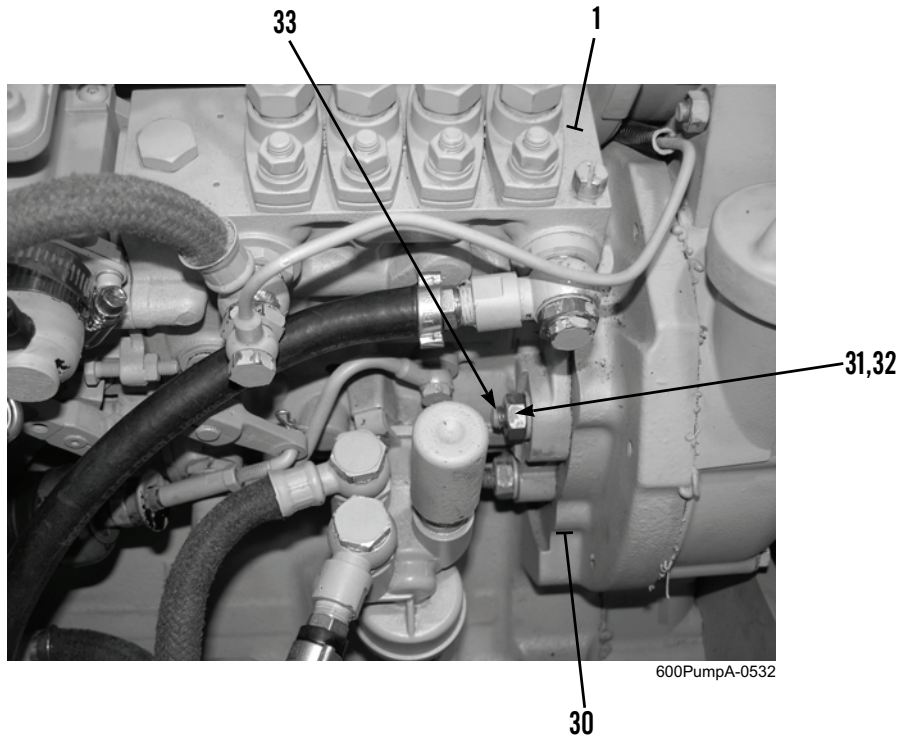

Figure 21. Fuel Injection Pump Mounting.
12. Install fuel injection pump (Figure 21, Item 1) on studs (Figure 21, Item 33) at engine block (Figure 21, Item 30) with four washers (Figure 21, Item 32) and nuts (Figure 21, Item 31). Proceed to step 13.